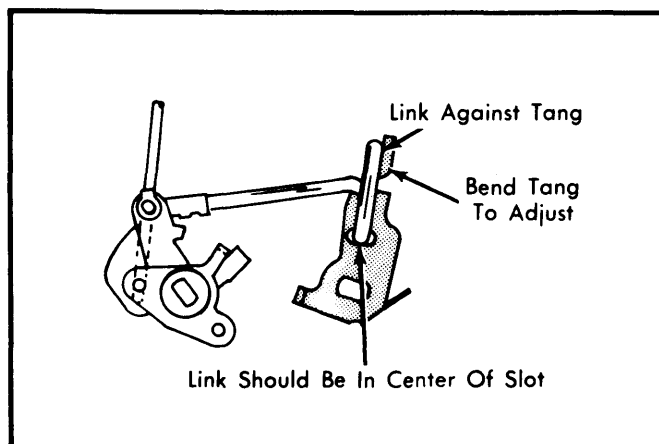

Fig. 14 Measuring Secondary Throttle Opening Linkage
- 1) Open primary throttle valves until secondary throttle link just contacts tang on secondary throttle lever. See Fig. 14.